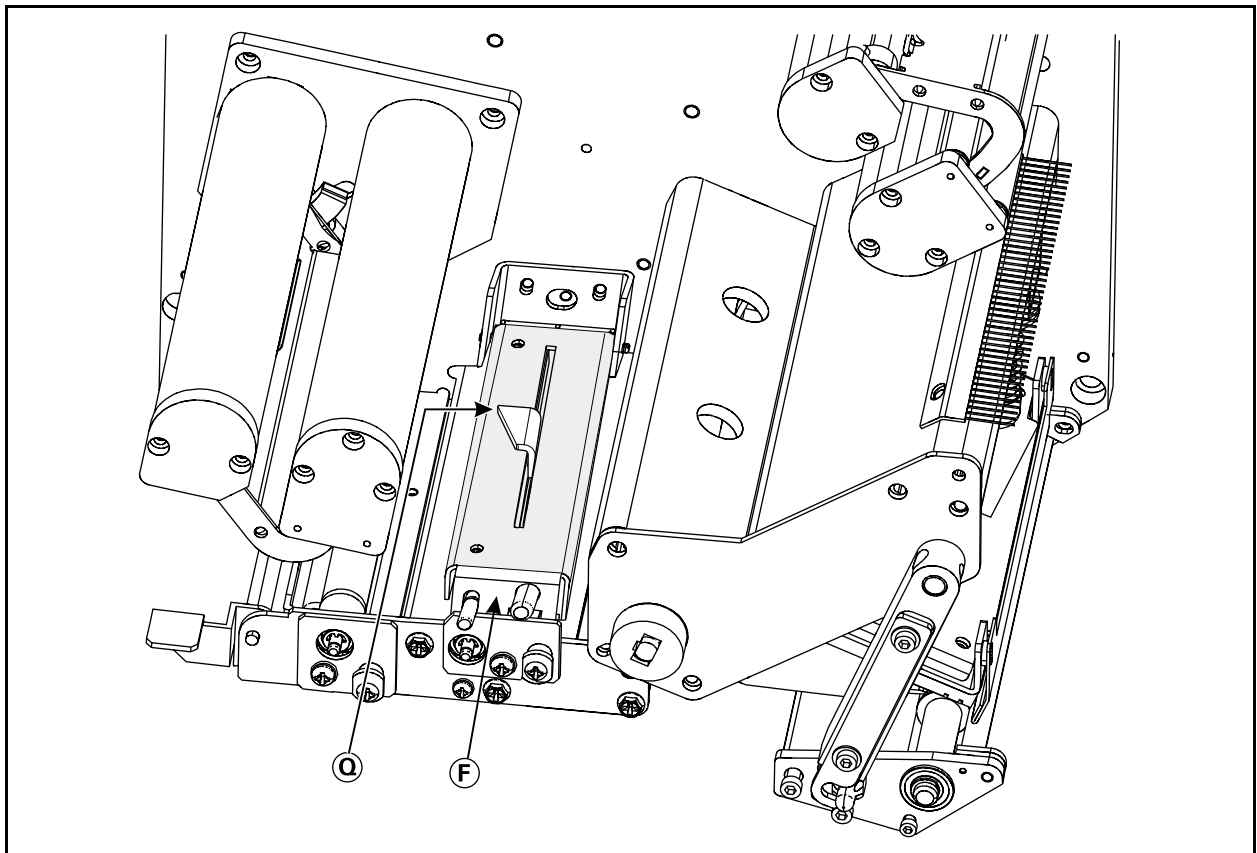

Figure 6. Media Sensor Adjustment (RH)
The transmissive media sensor finds “Start of Label” indicators such as a notch or hole in the media or an interlabel gap between labels. This sensor consists of a light source (positioned below the media) and a light sensor (positioned above the media). To position this sensor, refer to Figure 6. If the media has a notch or hole, slide the sensor position indicator (Q) along the pivoting segmented pinch roller assembly (F) so the point of the indicator aligns with the notch or hole in the media. If your media uses an interlabel gap, position the media sensor approximately at the center of the media width.